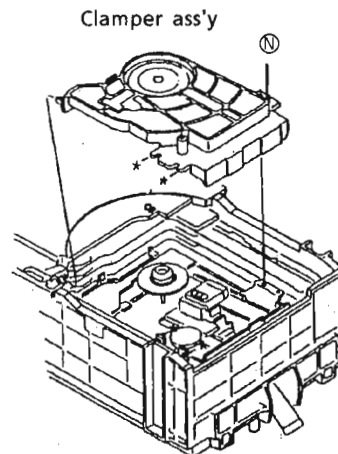

Fig.28
5. Remove a screw ⑥ securing center of the clamper ass'y.(See Fig. 28)